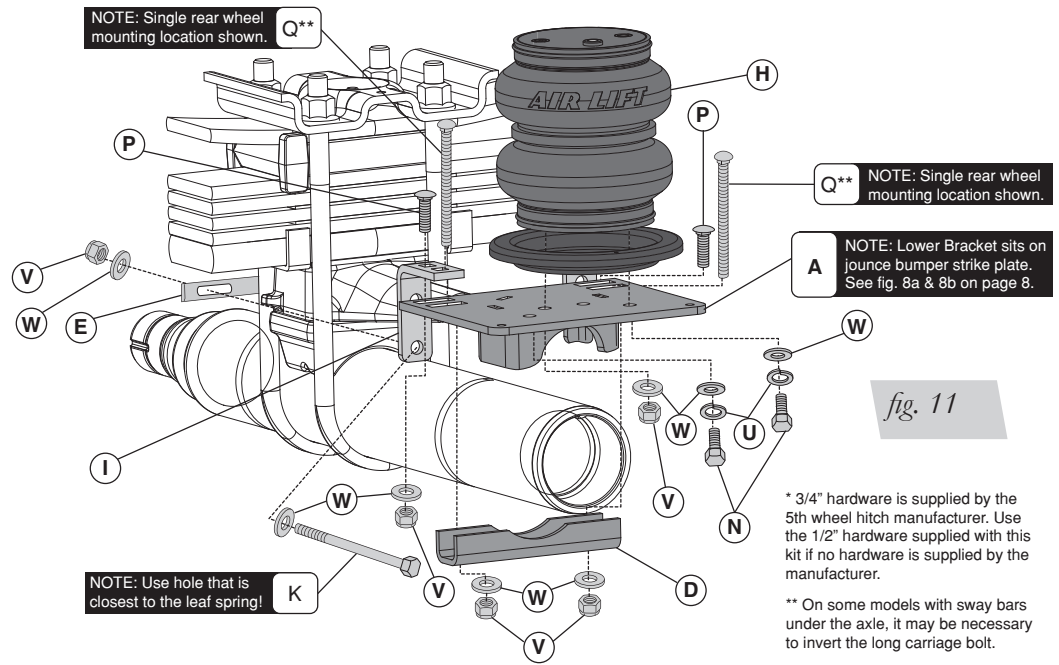

fig. 11
3. Attach the locating bracket (I) to the lower bracket with a 3/8"-16 x 1.25" carriage bolt (P), flat washer (W) and nylon lock nut (V) using the remaining slot in the top of the locating bracket. Leave loose at this time.
5. Using the 3/8"-16 x 5.5" hex head bolts (K) and flat washers (W) previously installed on the locating brackets, insert them into the spring clamp bar (E) on the opposite side of the leaf spring assembly (Fig. 11). Cap with 3/8" flat washers (W) and nylon lock nuts (V). Leave loose at this time.